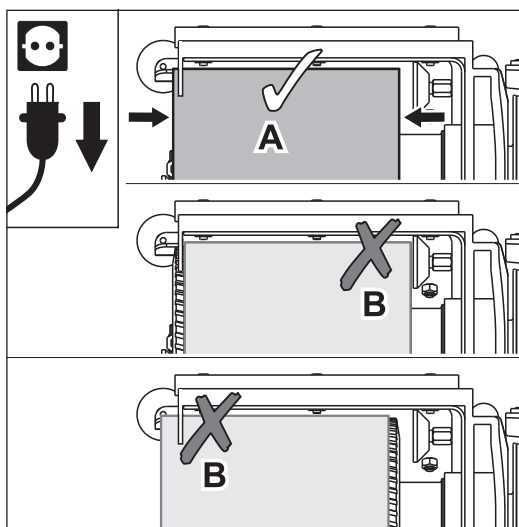

Fig. 17 Position the sanding belt so that it evenly covers the sanding drum (A). Avoid position B without fail (RISK OF FIRE)!
- 11 Position the sanding belt so that it evenly covers the sanding drum (fig. 17, A).
Position B of the sanding belt in fig. 17 provoke sparking during sanding! Avoid this without fail!